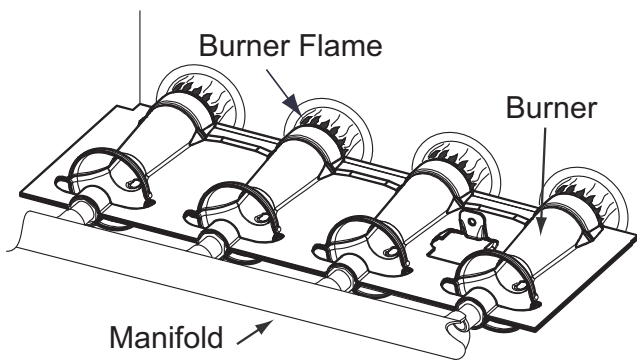

Fig. 66 – Burner Flame
8. Reverse items 6 through 1 for reassembly.
11. Check furnace operation through 2 complete heat operating cycles. Look at burners. Burner flames should be clear blue, almost transparent. See Fig. 66.